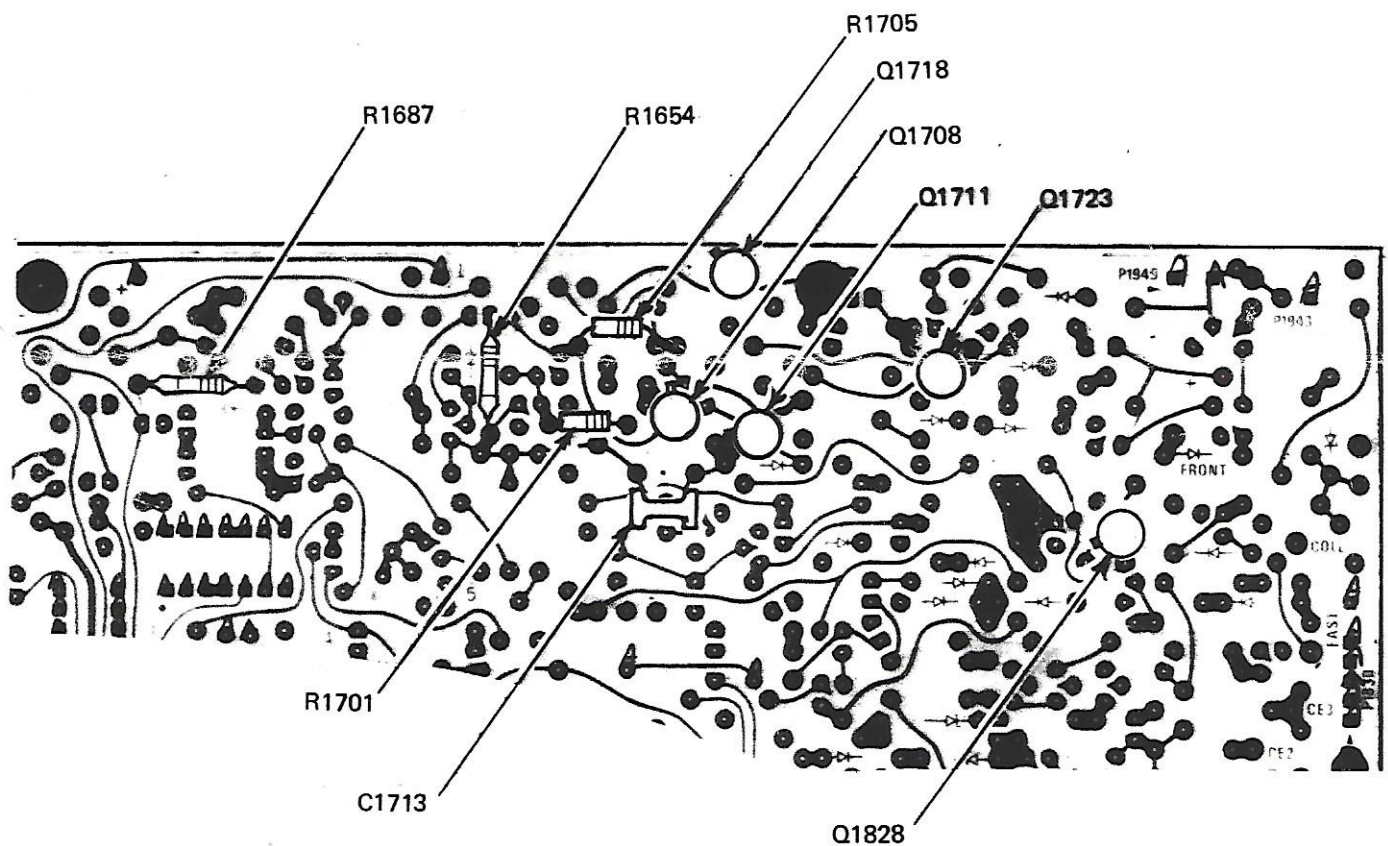

Fig. 1. Storage Circuit Board Component Locations.
- () 25. Replace the following components on the Storage circuit board with the indicated components from the kit (refer to Fig. 1 for component locations):
- () 27. Refer to the Performance Check/Calibration Section (5) of the Instruction Manual and check oscilloscope operation, making any necessary adjustments.